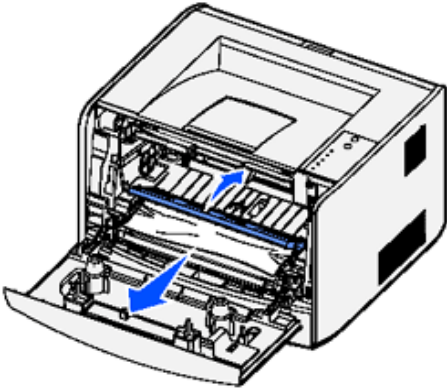

Figure 4: Remove Any Jams Beneath the Front Printer Flap
5. Lift the flap at the front of the printer and remove any jams beneath the flap (**Figure 4**).